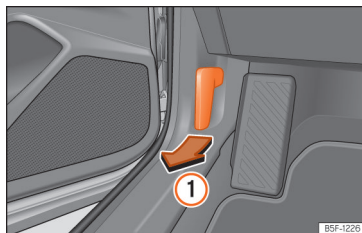

Fig. 218 Release lever in the driver's footwell area.
- Open the door and pull the lever that is underneath the instrument panel »»» Fig. 218 ①.